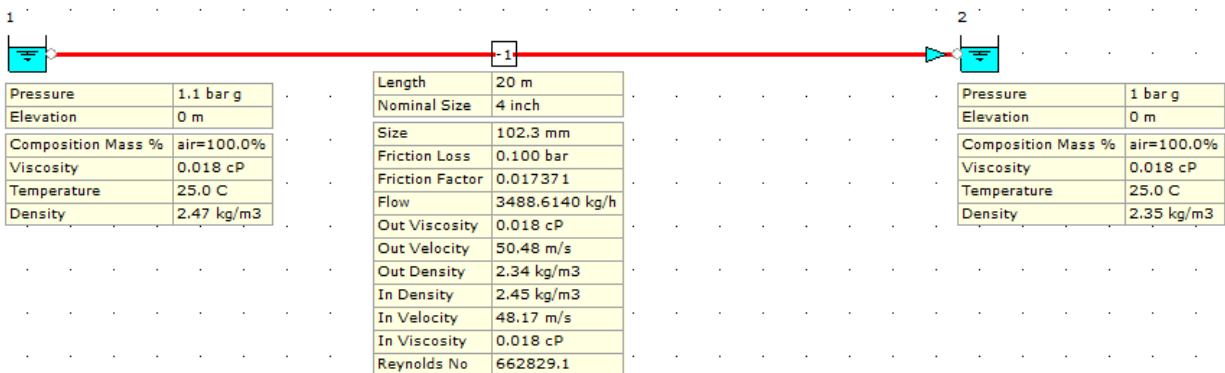

Figure 42: Hydraulic Model with Pipe Properties.
47. The hydraulic model should now look like the screenshot given below (Figure 42).